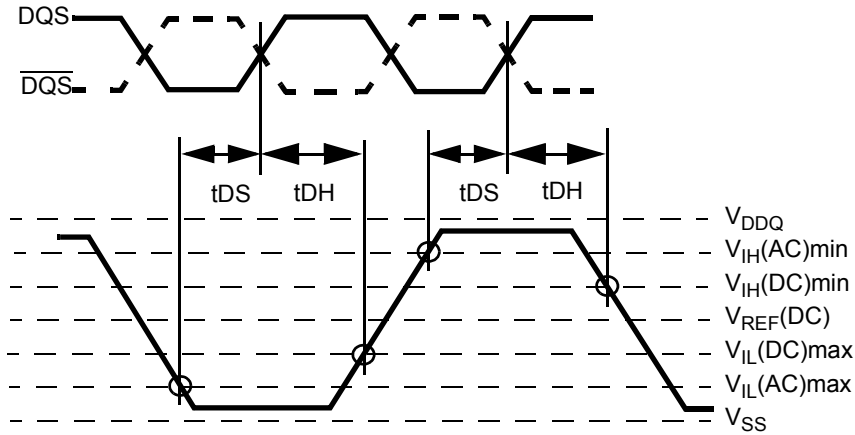

Figure 20. Differential input waveform timing -  $t_{DS}$  and  $t_{DH}$
20. Input waveform timing  $t_{DS}$  with differential data strobe enabled  $MR[bit10]=0$ , is referenced from the input signal crossing at the  $V_{IH}(AC)$  level to the differential data strobe crosspoint for a rising signal, and from the input signal crossing at the  $V_{IL}(AC)$  level to the differential data strobe crosspoint for a falling signal applied to the device under test.  $DQS$ ,  $\overline{DQS}$  signals must be monotonic between  $V_{IL}(DC)_{max}$  and  $V_{IH}(DC)_{min}$ . See Figure 20.
21. Input waveform timing  $t_{DH}$  with differential data strobe enabled  $MR[bit10]=0$ , is referenced from the differential data strobe crosspoint to the input signal crossing at the  $V_{IH}(DC)$  level for a falling signal and from the differential data strobe crosspoint to the input signal crossing at the  $V_{IL}(DC)$  level for a rising signal applied to the device under test.  $DQS$ ,  $\overline{DQS}$  signals must be monotonic between  $V_{IL}(DC)_{max}$  and  $V_{IH}(DC)_{min}$ . See Figure 20.